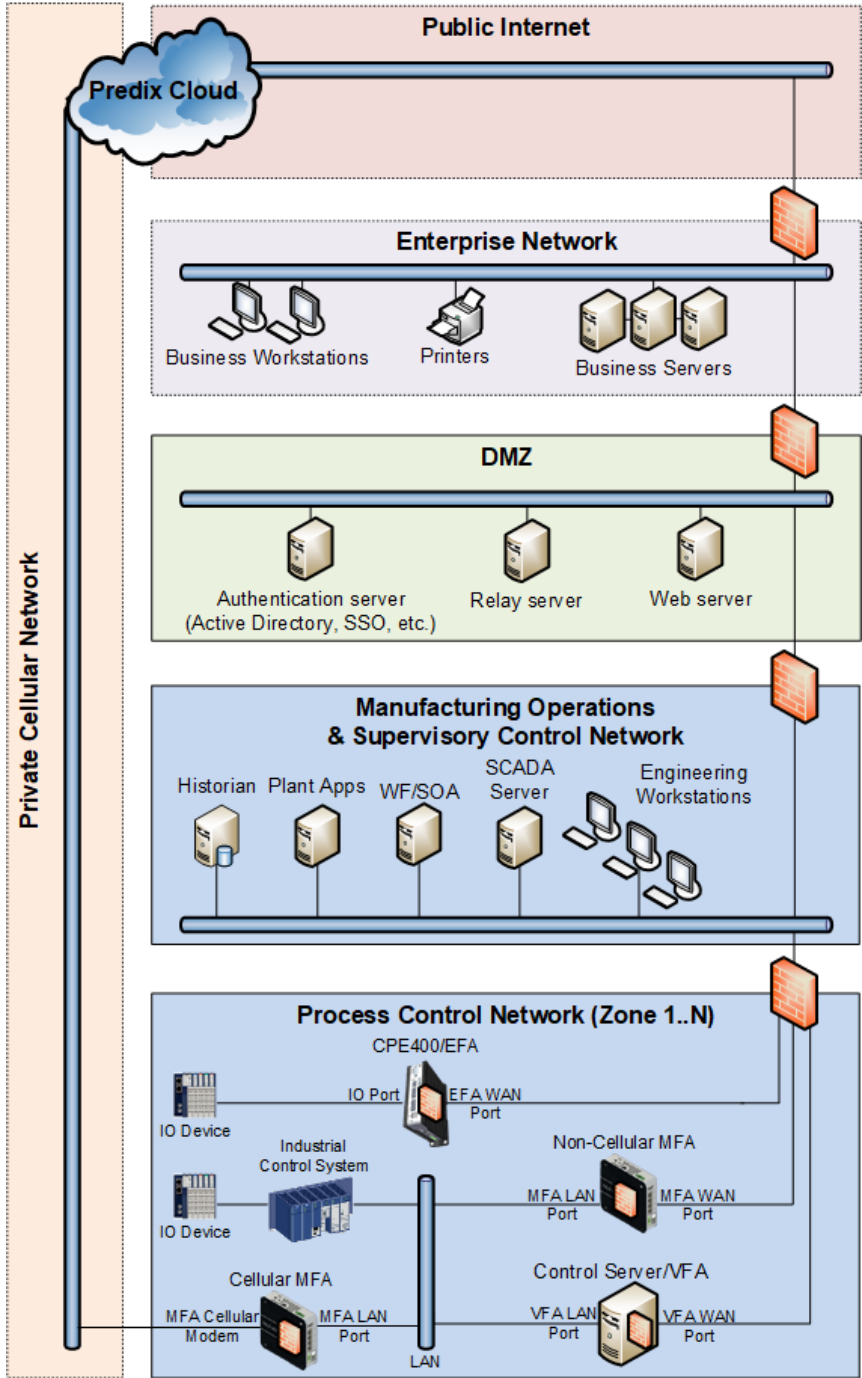

Figure 1: Field Agents SDG Reference Network Diagram
2) Networks should always be physically segmented as suggested in the Reference Network Architecture diagram (Figure 1) to avoid exposure to facility network.